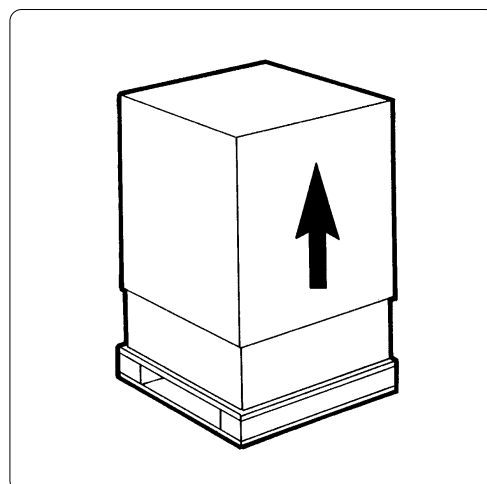

Fig. 1
- a) Remove the packing binding, then slide the packing off the machine, lifting it upwards (see fig.1).